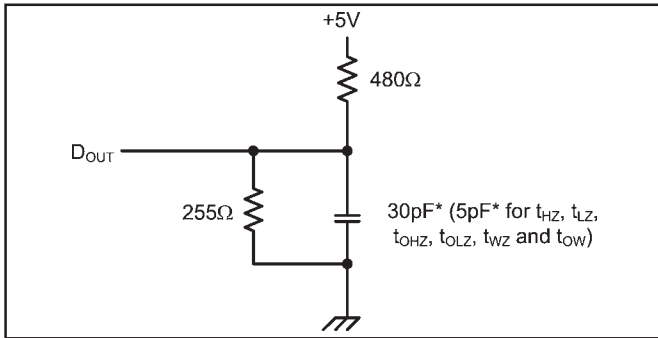

Figure 1. Output Load
- 8. Transition is measured  $\pm 200$  mV from steady state voltage prior to change, with loading as specified in Figure 1.
Output Load	See Figures 1 and 2